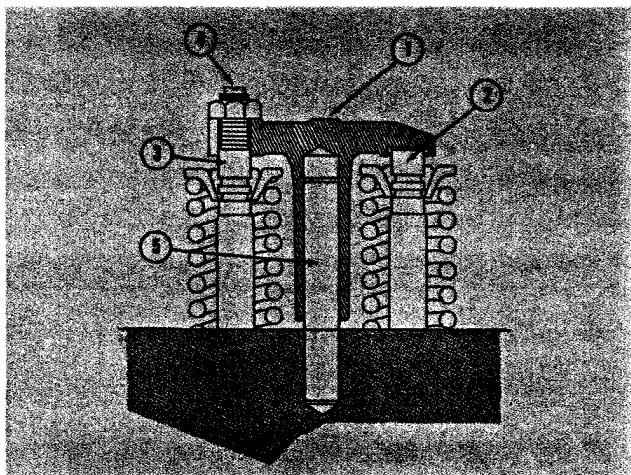

Fig. 2-46, (N21461). Adjusting valve crosshead
1. Loosen valve crosshead adjusting screw locknut and back off screw (4, Fig. 2-46) one turn.